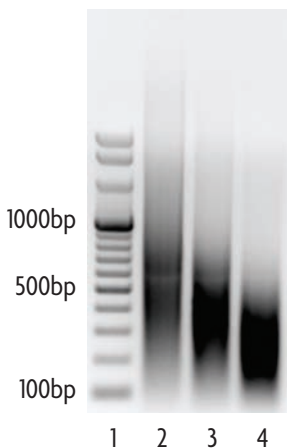

Figure 2: Gel analysis of sonication shearing (ChIP-IT Express).
7. Optimal sonication shearing should result in a 200-1500 bp smear similar to that shown in lanes 2 or 3 of Figure 2 below. Optimal enzymatic shearing should produce a 200-1500 bp ladder-like smear similar to Lane 4 of Figure 3 below: